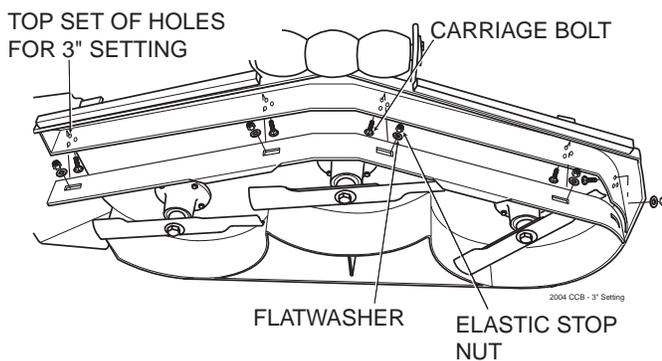

Figure 6-9. 3" Custom-Cut Baffle Position
- A. 3" Position - baffle is installed using the top set of holes on the front baffle welded inside the cutter deck. (See Figure 6-9). The Advantage cutter deck will deliver the best quality-of-cut in very tall, wiry, tough to cut grass.
3. Move the Custom-Cut Baffle to desired position. (See Figures 6-9 through 6-11 for position).